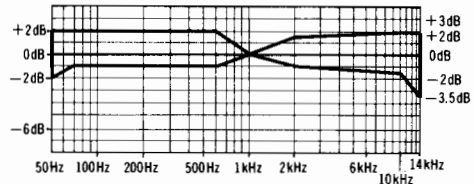
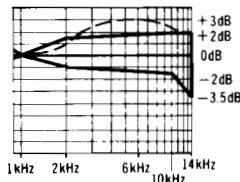
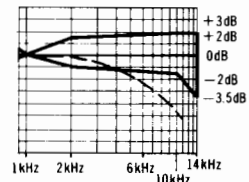

Fig. 12
Fig. 14
Fig. 15
6. Playback the signals recorded in step 6, and check if the frequency response curve is within the limits shown in the overall frequency response chart for normal tapes (fig. 12). (If the curve is within the charted specifications, proceed to steps 7, 8 and 9.)
When the curve exceeds the overall specified frequency response chart (fig. 12) as shown in fig. 14.
- 2) Repeat steps 5 and 6 for confirmation (Proceed to steps 7, 8 and 9 if the curve is now within the charted specifications as shown fig. 12).
- 3) If the curve still exceeds the specifications (fig. 12), increase bias current further and repeat steps 5 and 6.
When the curve falls below the overall specified frequency response chart (fig. 12) as shown in fig. 15.
- 3) If the curve still falls below the charted specifications (fig. 12), reduce bias current further and repeat steps 5 and 6.